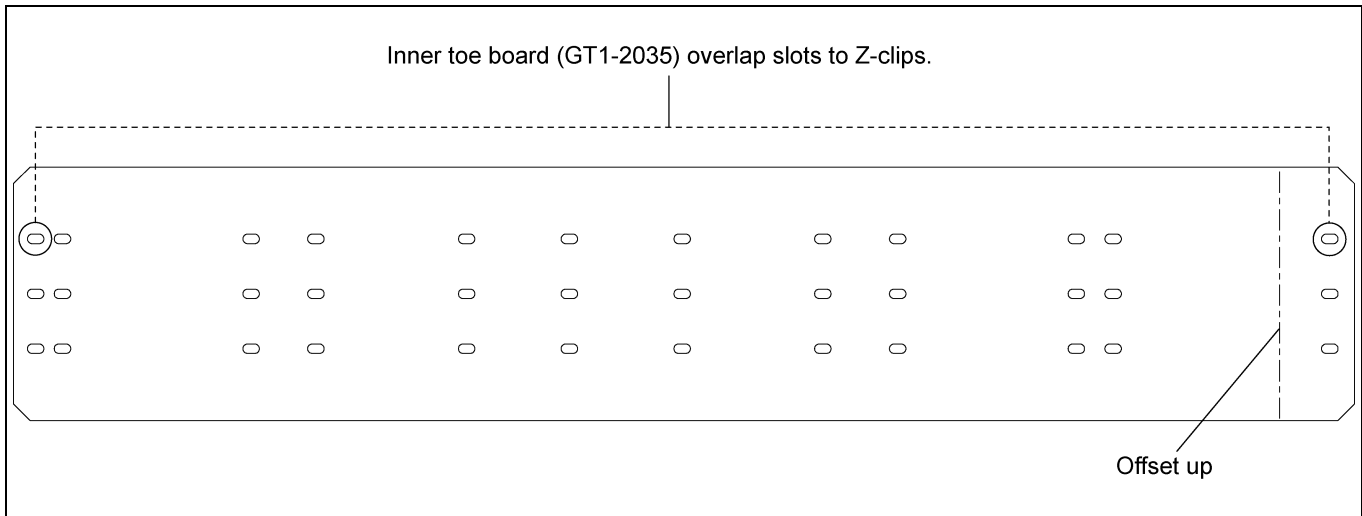

Figure 4I 12' Inner Toe Board (GT1-2035)
3. Inner toe board is arranged with overlap slots on each side. Install 12' inner toe boards (GT1-2035) to corresponding slots as shown in Figure 4I.